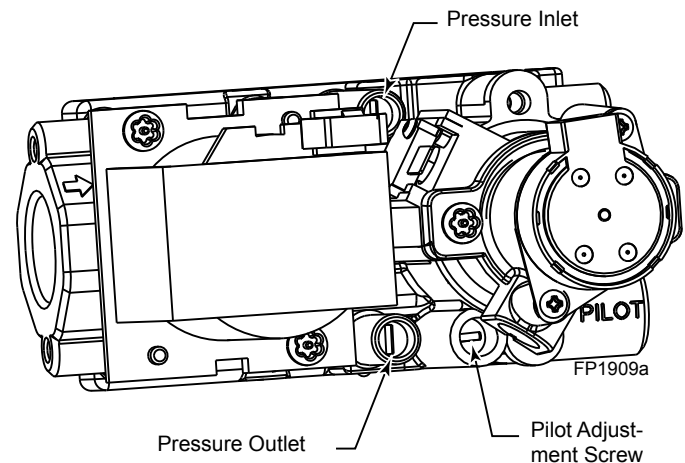

Figure 33 - Signature Command Valve
4. To check gas pressures at valve, turn captured screw counter clockwise 2 or 3 turns and then place tubing to pressure gauge over test point. Turn unit to high. *Figure 33*. After taking pressure reading, be sure and turn captured screw clockwise firmly to reseal. Do not over torque. Check test points for gas leaks.